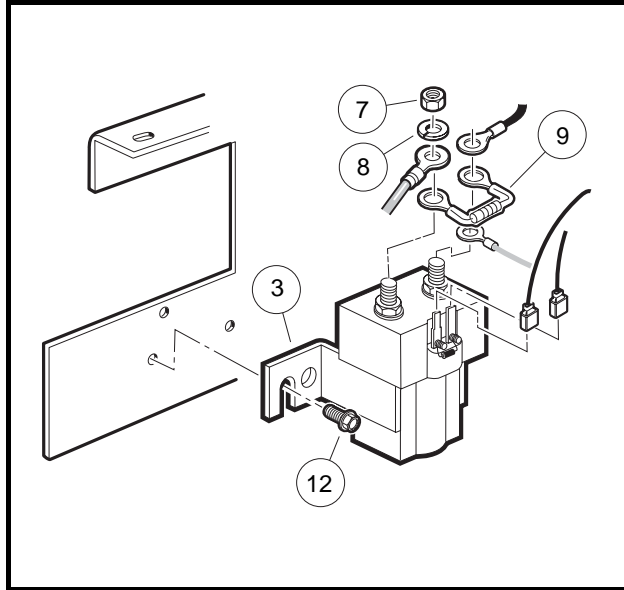

Figure 13-5 Solenoid
1. Mount solenoid onto component mounting plate with screws (12) (**Figure 13-5, Page 13-8**).
2. Tighten screws (12) to 60 in-lb (6.8 N·m).
3. Using the wiring diagram, install the wires, resistor (9), washers (8), and nuts (7) onto the large mounting posts. Tighten nuts to 77 in-lb (8.7 N·m). **See Wiring Diagrams, Section 11, Page 11-2.**
4. Install the blue/white and light blue wires onto the small terminals of the solenoid (**Figure 13-5, Page 13-8**).